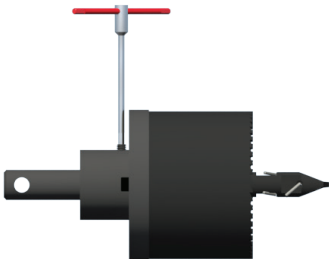

Figure 52
4.3.9) Once aligned, insert and tighten the set screw. Test pull the pilot drill to ensure the set screw is properly locked in place against the pilot drill ledge. Check the coupon retaining clips so they move freely (see Figure 52).